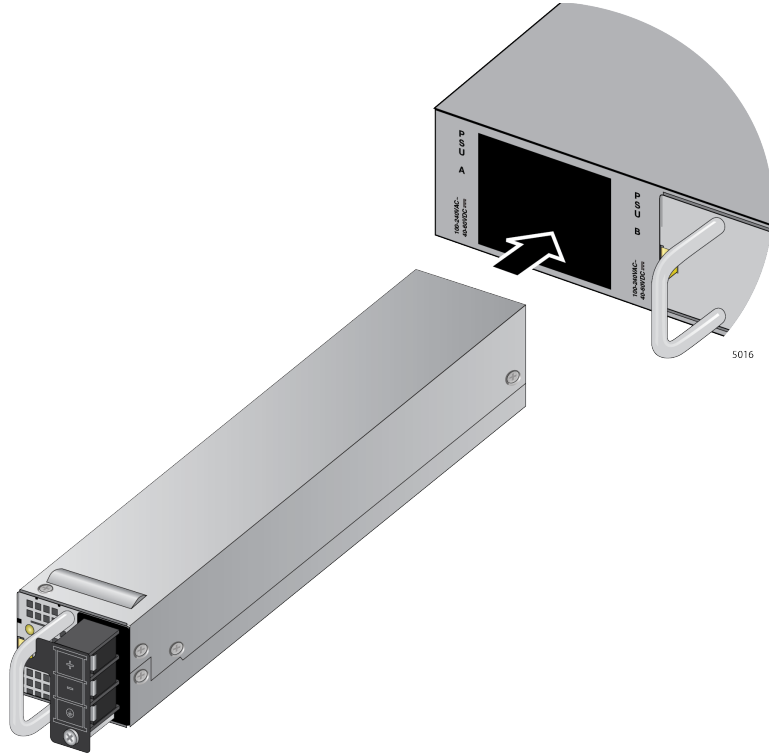

Figure 58. Sliding the PWR600 DC Power Supply into the Chassis
3. Carefully align the power supply in the slot and slide it into the slot. Figure 58 on page 121 shows the module aligned for the PSU A slot.